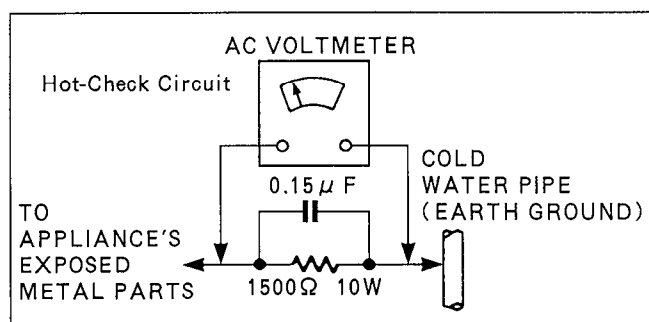

Figure 1
## LEAKAGE CURRENT HOT CHECK (See Figure 1)
2. Connect a  $1.5\text{K}\Omega$ ,  $10\text{W}$  resistor, in parallel with  $0.15\mu\text{F}$  capacitor, between each exposed metallic part on the set and a good earth ground such as a water pipe, as shown in Figure 1.